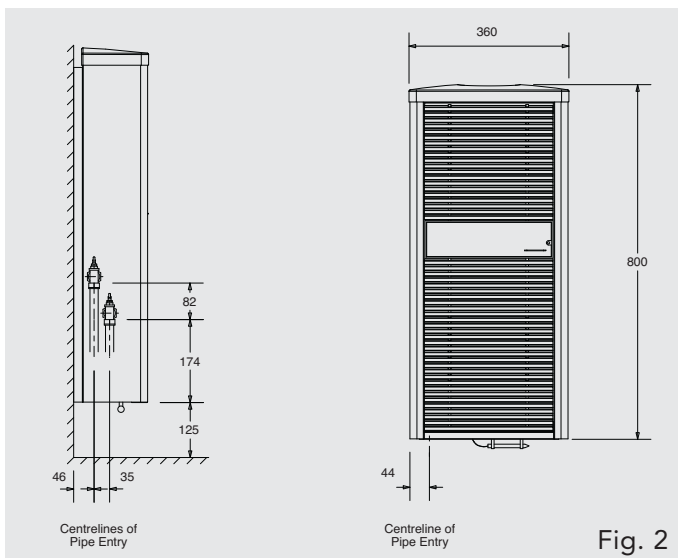

Fig. 2
- Connect unit to system flow and return pipes using the two 15mm isolating valves (see fig. 2).